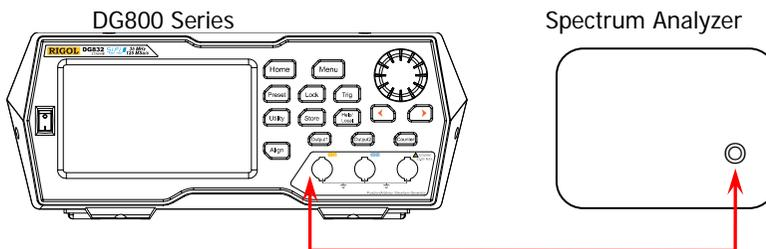

Figure 2-4 Connect DG800 and the Spectrum Analyzer
1. Make sure that the environment temperature is between 18°C and 28°C and DG800 has been warmed up for at least 30 minutes. Connect the channel output terminal (take CH1 as an example; the test method is also applicable to CH2) of DG800 with the signal input terminal of the spectrum analyzer using a dual-BNC connecting cable and N-BNC adaptor as shown in Figure 2-4.
- Make sure that the environment temperature is between 18°C and 28°C and DG800 has been warmed up for at least 30 minutes. Connect the channel output terminal (take CH1 as an example; the test method is also applicable to CH2) of DG800 with the RF input terminal of the spectrum analyzer using a dual-BNC cable and N-BNC adaptor as shown in Figure 2-4.